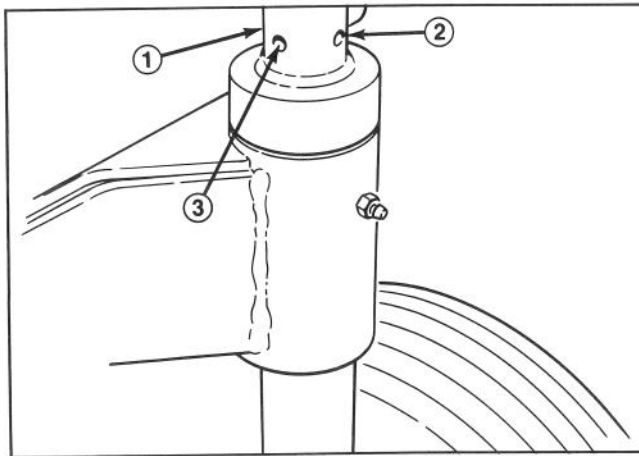

Figure 2
2. Align keyway in handle assembly with key and slide handle onto shaft (Fig. 2).
3. Insert roll pin into mounting hole and drive pin in until flush with edge of handle assembly (Fig. 2).
4. Apply loctite #242 to set screw. Install screw to handle assembly and tighten (Fig. 2).